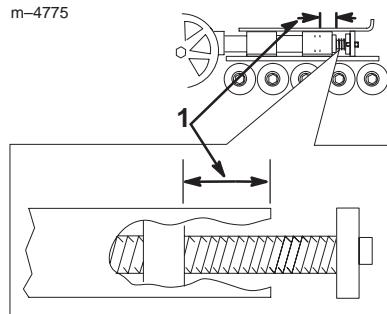

Figure 13
- Turn the tensioning screw counter-clockwise until the distance between the tension nut and the back of the fork tube (Fig. 13) is 2-3/4 inch (7 cm).